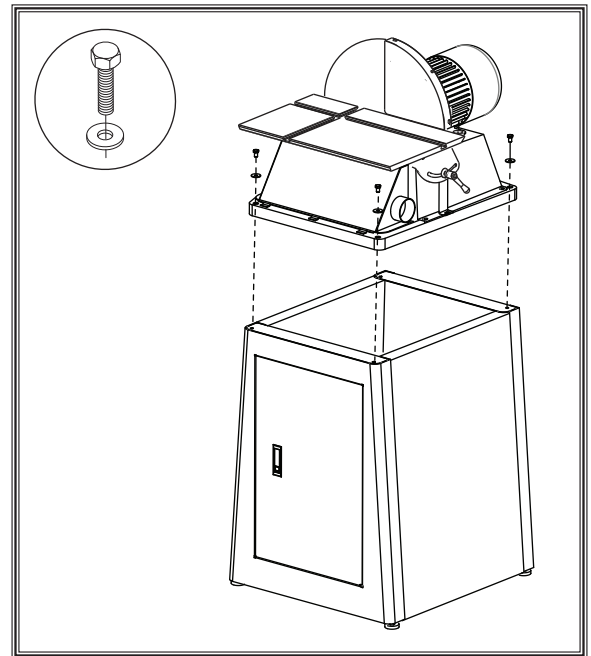

Figure 9. Sander installation.
6. With the help of another person, place the sanding unit onto the top of the cabinet, as shown in **Figure 9**, and fasten it to the cabinet using (4) M8-1.25 x 45 hex bolts and (4) $\frac{5}{16}$ " flat washers.